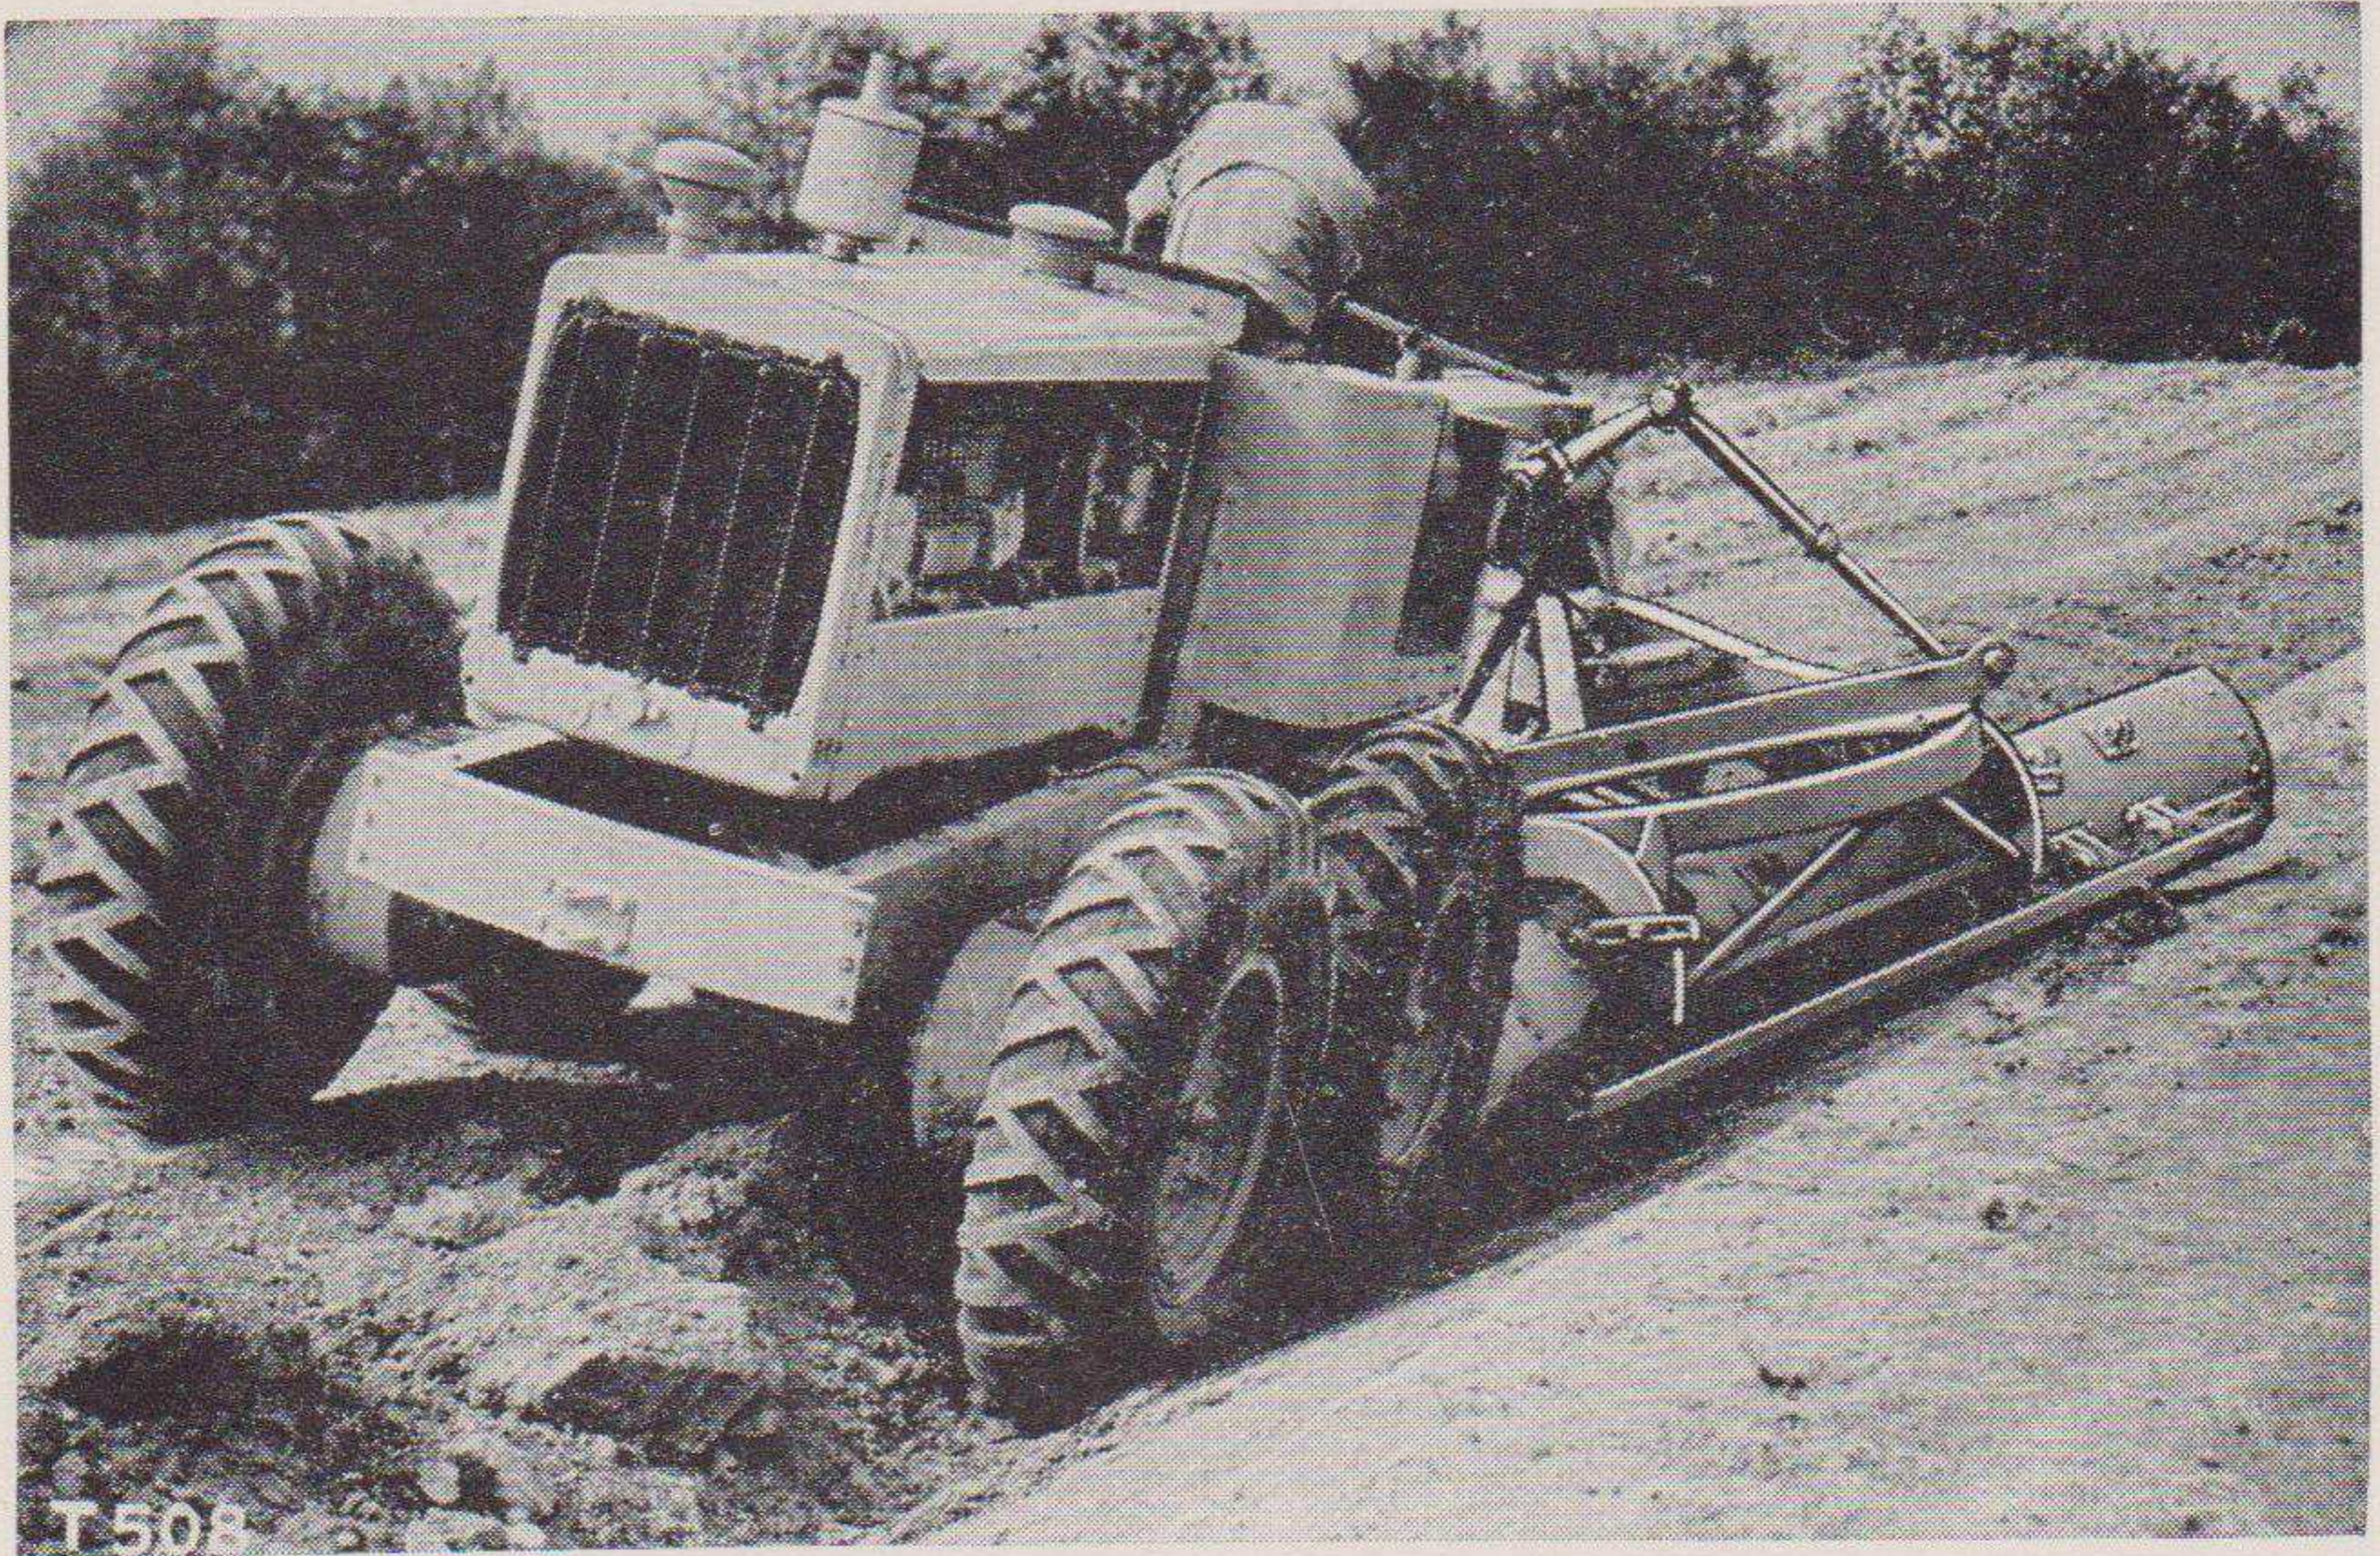

Figure 44. Cutting low back slope.
- (1) Offset the blade to the right on the blade beams.
- (2) The right lift link is shortened as required by the degree of slope.
*b. LOW FLAT BACK SLOPES.* (See fig. 44.)